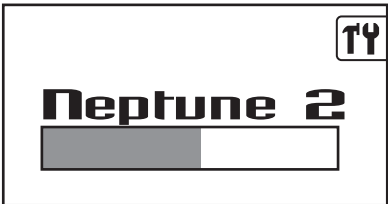

Figure 10 Neptune Splash Screen
- 4. Continue to push the display button until the Neptune 2 splash screen appears. The system setup screen will appear after the splash screen (see figure 10).